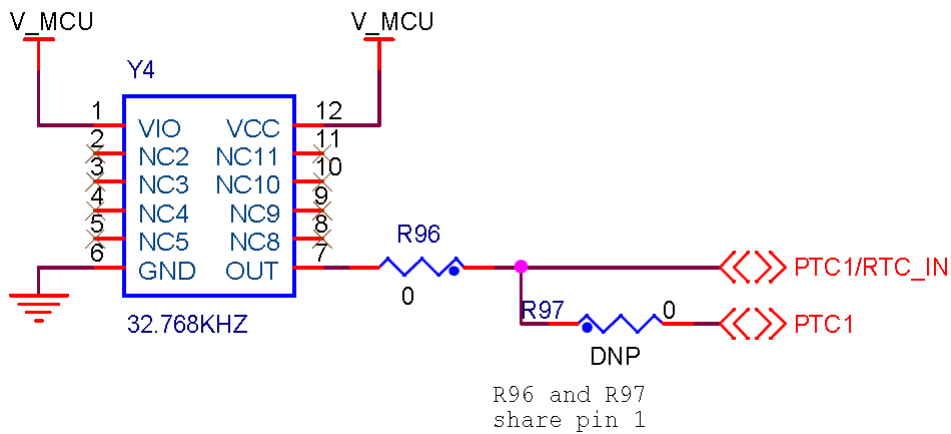

Figure 8. FRDM-KW019032 32.768 kHz optional oscillator circuit
- Optional 32.768 kHz Crystal Oscillator - Provision is also made for a secondary 32.768 kHz crystal Y4 (see Figure 8). This oscillator can be used as a low power accurate time base.